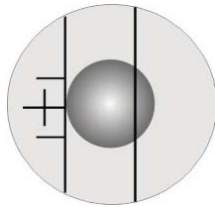

Fig.6
- 1) Rotate the Left Drum Wheel to enable the inner side of left graduated line tangent to the left tip of the diagonal line of the indentation, Fig6.